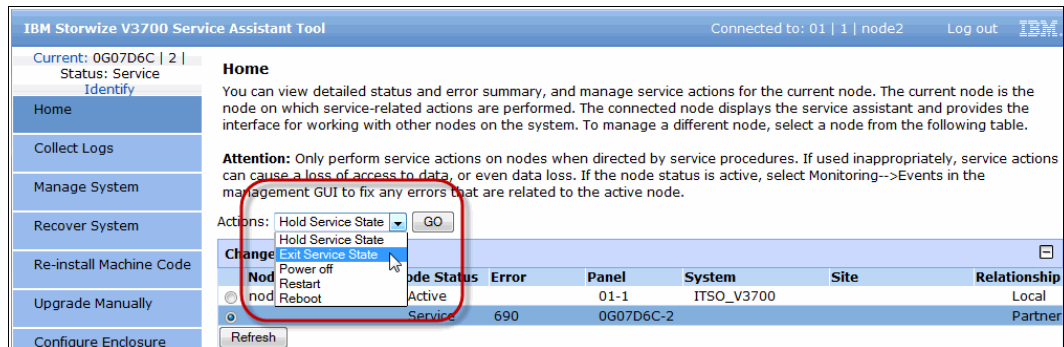

Figure 11-47 Exit service state to add node back in cluster
17. To exit from service state, browse to the home pane of the SA tool and open the Action menu. Select **Exit Service State**, as shown in Figure 11-47.